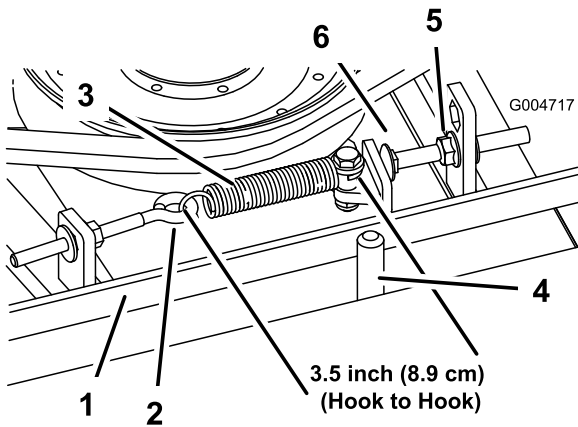

Figure 63
When properly tensioned, the extension spring (hook to hook) measurement should be approximately 3.50 ±.25 inch (inside). Once the correct spring tension is attained, adjust the stop bolt (carriage bolt) until there is approximately .125 +.060/-.000 inch clearance between the head of the bolt and the idler arm (Figure 63).
Note: Make sure the belt is positioned on the spring side of the belt guide (Figure 63).
2. Loosen the eye bolt allowing the removal of the extension spring (Figure 63).
3. Loosen the flange nut securing the stop bolt to the mounting tab. Back off the nut enough to allow the idler arm to pass by the stop bolt (Figure 63). Move the idler pulley away from the belt to release belt tension.
- Note:** Make sure the belt is positioned on the spring side of the belt guide (Figure 63).
8. Reconnect the extension spring (Figure 63) to the eye bolt and tension the belt as follows: